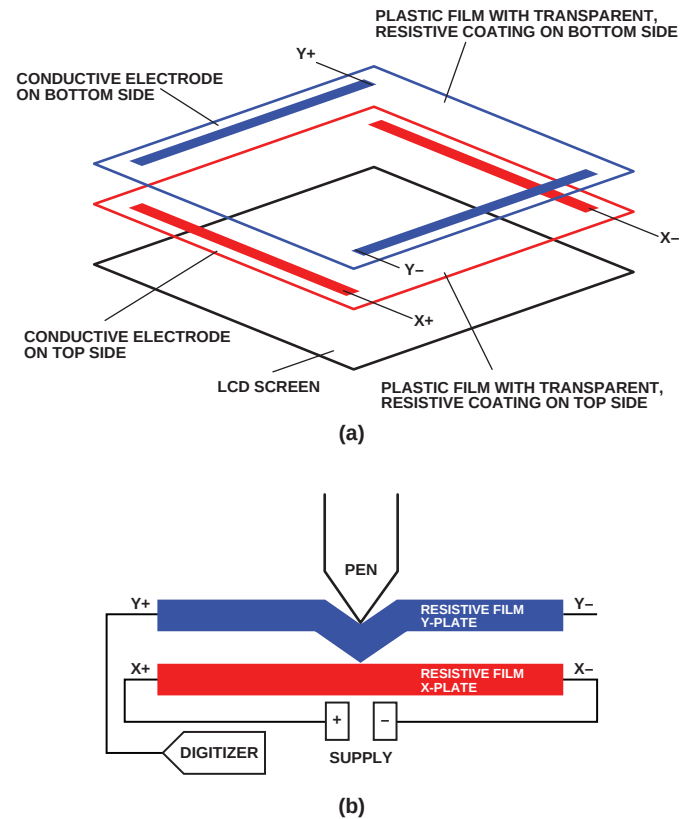

Figure 1. (a) Construction of a resistive touch screen, (b) electrical contact when user touches the screen.
Typical resistive screens have two parallel *indium tin-oxide* (ITO) conducting layers separated by a gap (Figure 1). The edge electrodes of the upper layer (Y) are rotated 90° with respect to those of the lower layer (X). A “touch” occurs when the two layers are brought into electrical contact by pressure applied to a small area of the screen. If a dc voltage is applied between the two electrodes of the top layer, while the lower layer floats, the touch brings the lower layer to the same voltage as the touch point. The touch coordinate in the direction of the top layer is identified by measuring the voltage on the bottom layer to determine the ratio of the resistance at the touch point to the total resistance. Then, electrical connections for the layers are swapped, and the coordinate of the touch point on the other axis is obtained.